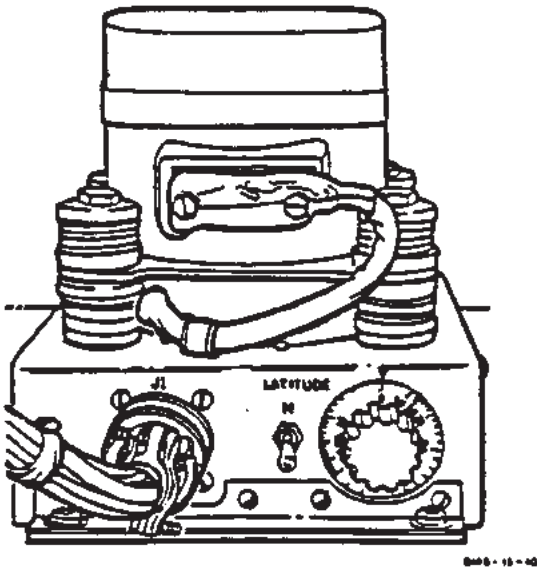

Figure 3-3-4. Directional Gyro (CN-998/ASN-43)
b. *Free Directional Gyro Operation.* If the compass slaving switch is at FREE, the system operates in the free directional mode. In this mode, the compass cards can be set to any heading by pressing the PUSH TO SET knob and turning it until the cards reach the selected setting. Normally, the free directional gyro mode is employed only in polar regions of the earth where magnetic references are unreliable. However, it can be useful if the slaving system malfunctions. For proper operation, the latitude controls on the directional gyro (fig. 3-3-4) must be set to the local latitude.